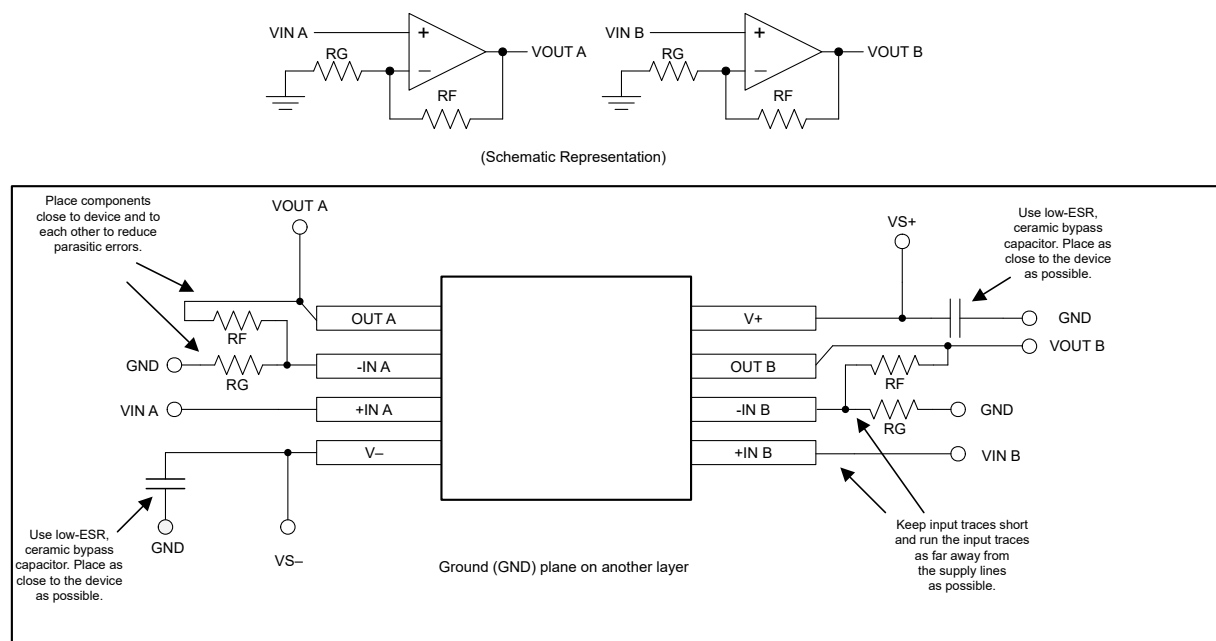

Figure 9-8. Layout Recommendation for TLV2365 SOIC Package
- Place the external components as close to the device as possible. Figure 9-8 shows that keeping R_F and R_G close to the inverting input minimizes parasitic capacitance.